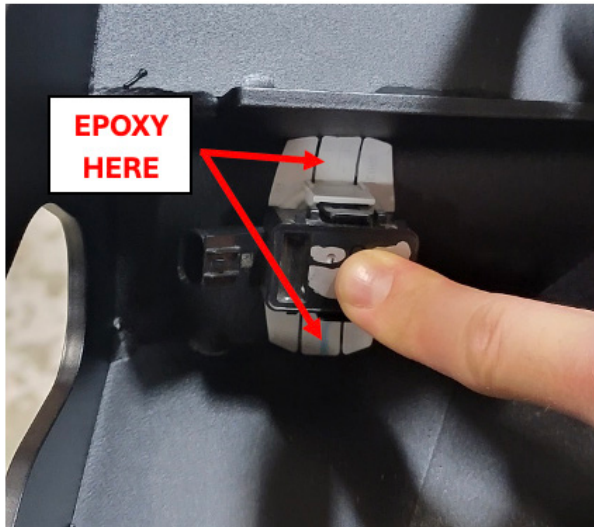

Figure 30.
25. Use the provided epoxy packets to place the sensor housings removed in step 14 into your Fab Fours bumper. Hold the housings in place using tape or your hands until the epoxy cures (>5 minutes). Figure 30.